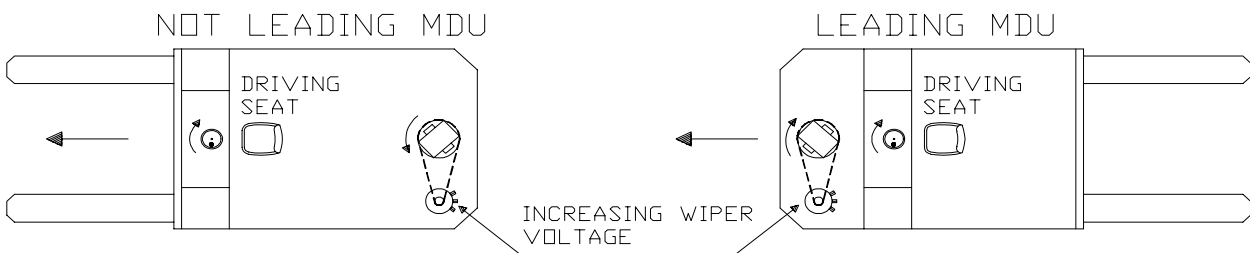

FIG. 7.1
a) The steer angle feedback pot. has 3 wires: two end wires and a wiper wire. If the truck has a not leading MDU (Motor Drive Unit - see figure 7.1)* connect the two end wires to Pin #1 and #2 of connector CNA so when the Drive Unit is turned Counter-Clockwise (Clockwise for a truck with a leading MDU) the value on the wiper is increasing. This value may be measured in two ways. Use the Zapi hand held controller through the TESTER MENU' (see 10.6.3). The second way is to use a DC voltmeter connected to the steering angle feedback pot. wiper and battery negative. The wiper should be connected to Pin # 11 of connector CNA.